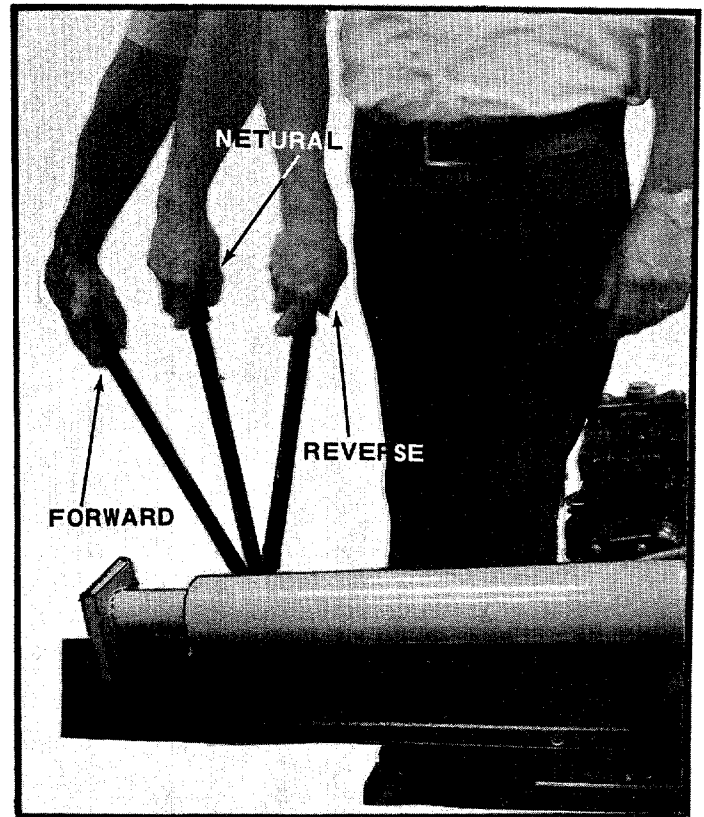

FIGURE 8
- B. Engagement handle has three positions: Forward - moves ram towards wedge. Neutral - ram stops in place. Reverse - ram returns. See figure 8.